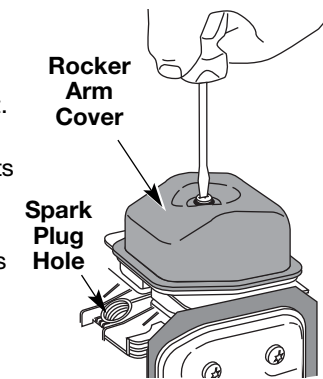

Fig. 37
7. Clean dirt from around the rocker arm cover. Remove the screw holding the rocker arm cover with a large flat blade screwdriver or Torx T-25 bit (Fig. 37). Remove the rocker arm cover and gasket.
- The piston is at the top of its travel while looking in the spark plug hole (Fig. 37)